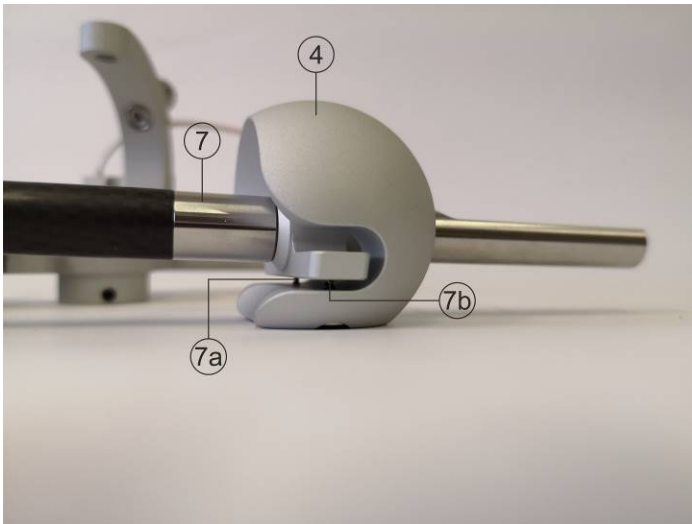
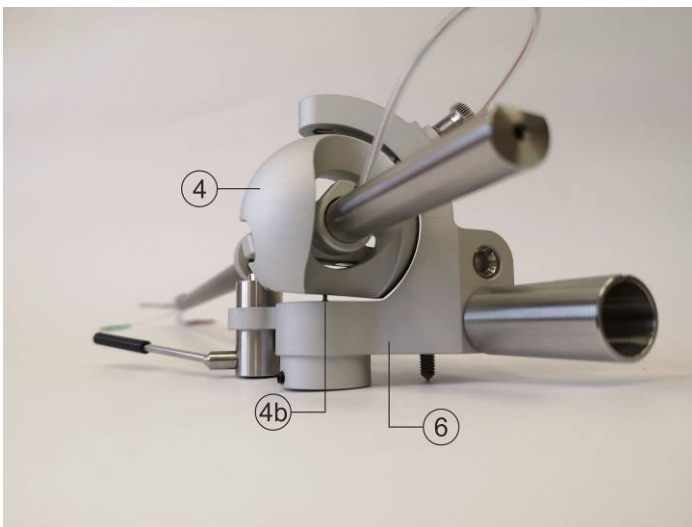

Figure 4
Figure 5
**Needles of the bearings [7a] and [7b] must be embed in sapphire V cup (Figure 4).**
- g) Set an armtube with frame [4] on a bottom bearing [4b] in tonearm body [6]. **Needle of the bearing [4b] must be embed in sapphire V cup (Figure 5).**
- i) Screw in a top bearing [4a]. **Needle of the bearing must be embed in sapphire V cup.** Bearing should be screwed in tight, however do not apply excessive force. Check if both axis bearings [4a], [4b] (Figure 5, 6) and [7a], [7b] (Figure 4) are in correct positions.